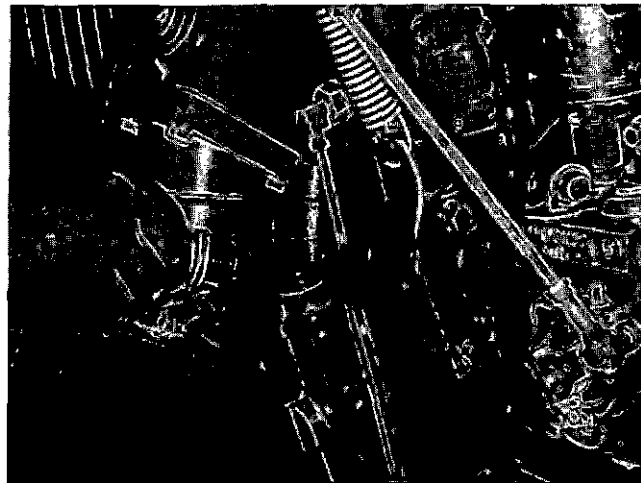

Fig. 14-2-2, V414227. Checking hydraulic governor oil level
2. Oil level in governor sump must be at full mark on dipstick, or half-way level on inspection glass. Fig. 14-2-2.